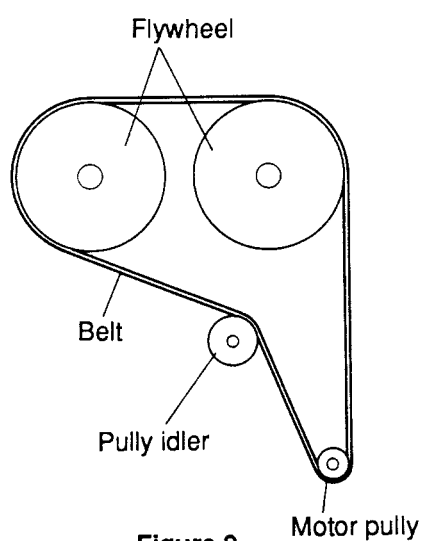

Figure 9
- (1) After removing the bottom cover, remove the belt.
- (2) Clean the new belt with absolute alcohol, and fix it as shown in Figure 9.